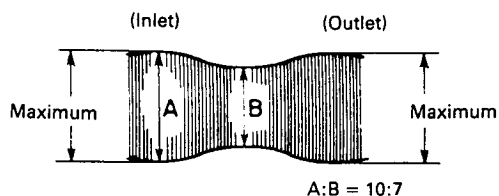

Figure 30.
- 5) Make adjustment in such a manner that, in Figure 30, the ratio of B to A is greater than 7/10 even when the tracking control is moved and width A of the RF waveform begins to decrease.